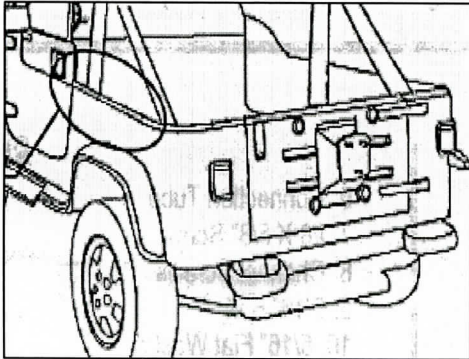

Figure 4
7. Locate Driver Side Belt Rail, (4) – 5/16"–18 Torx Bolts, (4) – 8M Flat Washers, and (4) – 5/16" – 18 Tapping Plates. Position Side Belt Rail onto vehicle and secure it using the hardware listed in this step (Figure 4 & 5). Repeat this step for opposite side.